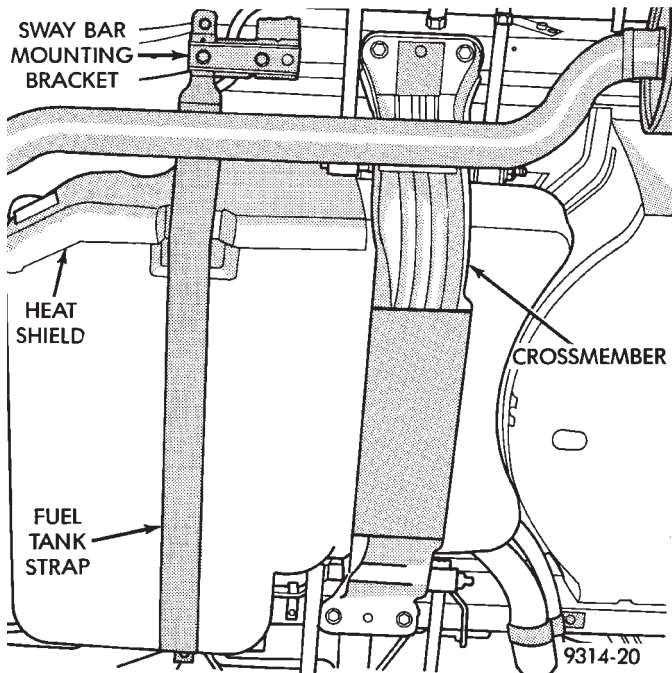

Fig. 6 Crossmember To Frame Rail Attaching Bolts
(4) Position a transmission jack under the fuel tank just forward of the crossmember to help support fuel tank when crossmember is lowered.
(5) Remove the 4 crossmember to frame rail attaching bolts (Fig. 6).
(6) Lower rear crossmember far enough so right lateral links to crossmember attaching bolt will clear fuel tank.